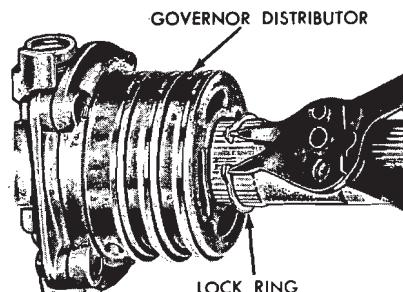

FIG. 45—Removing or Installing Governor Distributor Snap Ring—C4 Automatic
23. On a C4 automatic transmission, remove the governor distributor lock ring from the output shaft (Fig. 45). Remove the governor distributor from the output shaft.